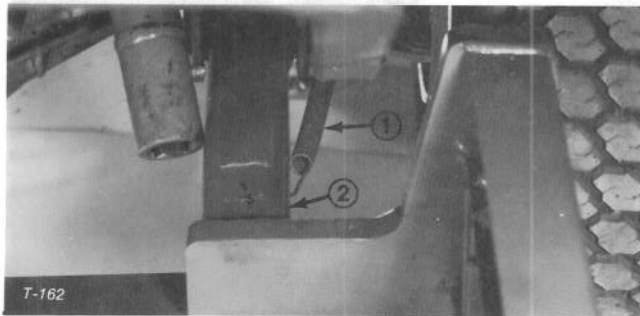

Figure 25
1. Disengage spring from slotted hole on lift arm (Fig. 25). Since spring is tensioned, retract it carefully.
2. Remove end of spring from clevis pin retaining brake strut and brake cable yoke together (Fig. 25).
4. Using a pliers, install long end of spring through slotted hole in cutting unit suspension frame (Fig. 25).